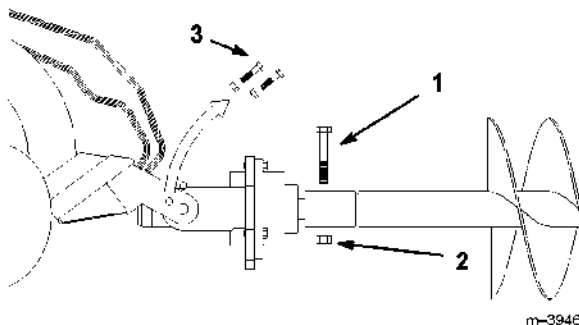

Figure 7
8. Secure the auger to the drive head with the 7/8"–9 x 4–1/2" bolt and 7/8"–11 nut (Fig. 7).
9. Remove the bolts and nuts from the cradle arms that were installed in step 3 (Fig. 7).